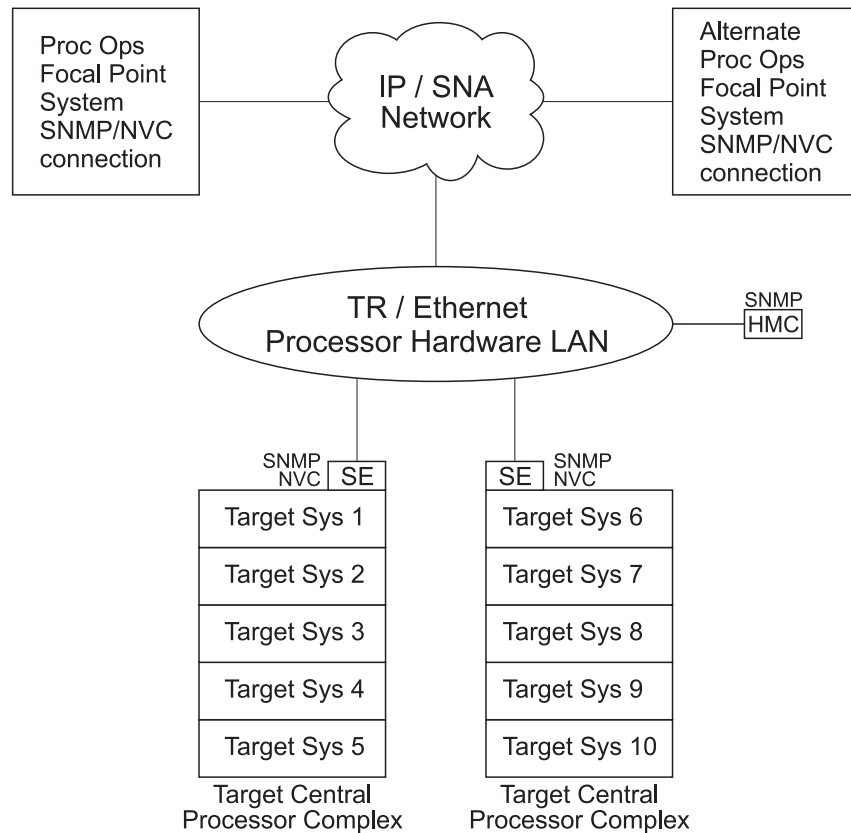

Figure 13. Alternate and Primary Focal Point System Connections from an IP or SNA Network to the Processor Hardware LAN
The graphic in Figure 13 on page 51 illustrates how primary and alternate processor operations focal point systems are connected to a target processor.
**Connection Example:** Figure 13 on page 51 shows an alternate focal point system as well as a primary focal point system connected from an IP or SNA network to the processor hardware LAN.